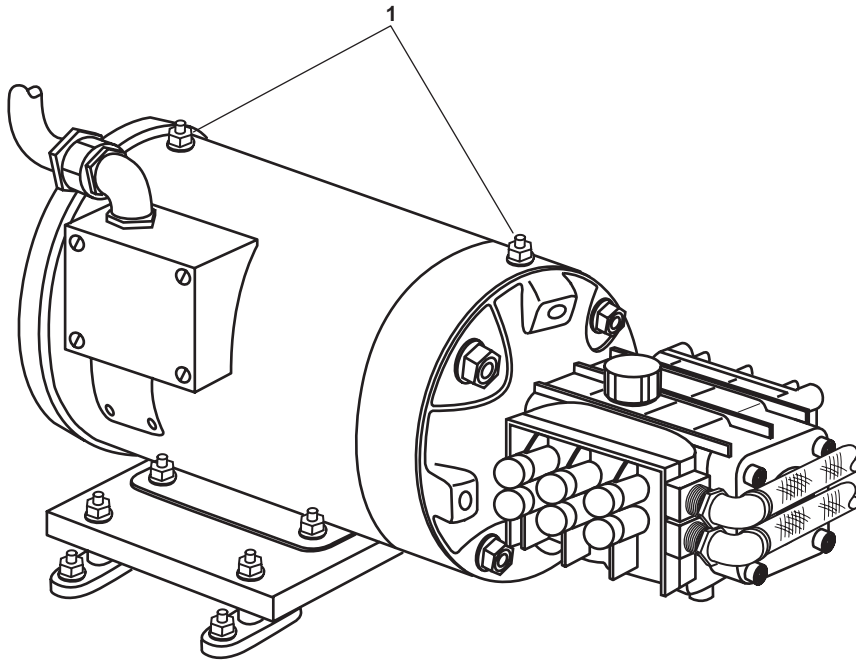

Figure 5. High Pressure Pump Grease Fittings
1. With a lubricating gun, apply three pumps of polyurea base grease to each grease fitting (figure 5, item 1) on the high pressure pump motors.
2. Remove excess grease from each grease fitting (figure 5, item 1) with a clean wiping rag.